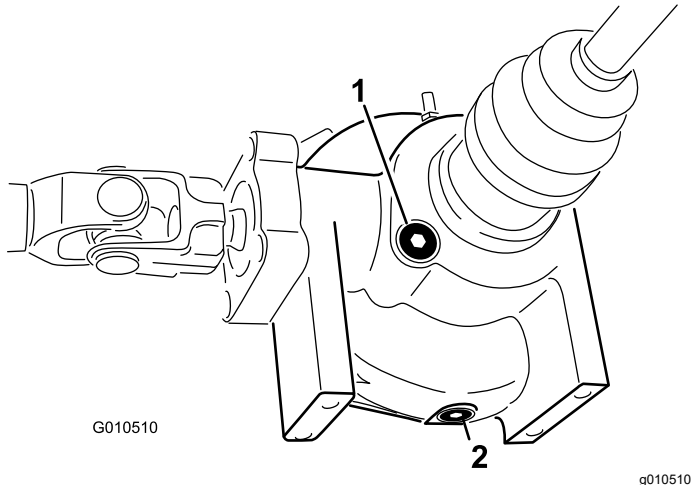

Figure 43
4. Clean the area around the fill/check plug on side of the differential (Figure 43).
4. Clean the area around the drain plug on the side of the differential (Figure 43).